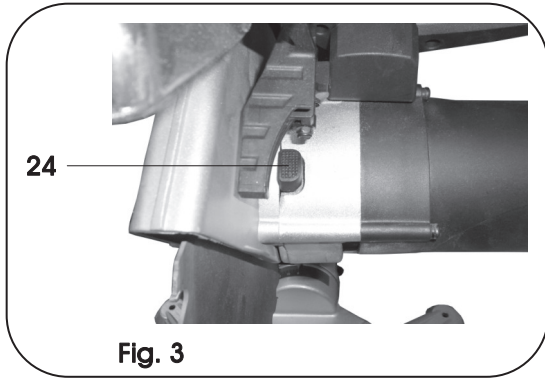

Fig. 3
- Completely depress the spindle lock button (24) Fig. 3, page 22 using one hand.